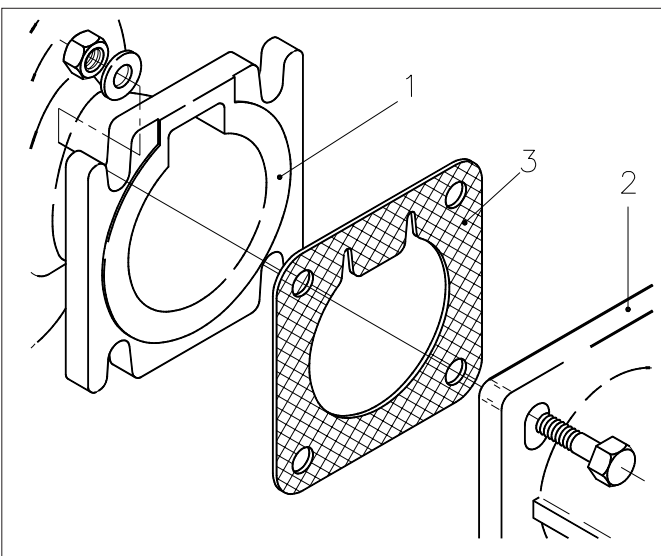

Fig. 6.7
- Place a special gasket (3) (Fig. 6.7)
- Mount the coupling adapter (1) to the pump (2).